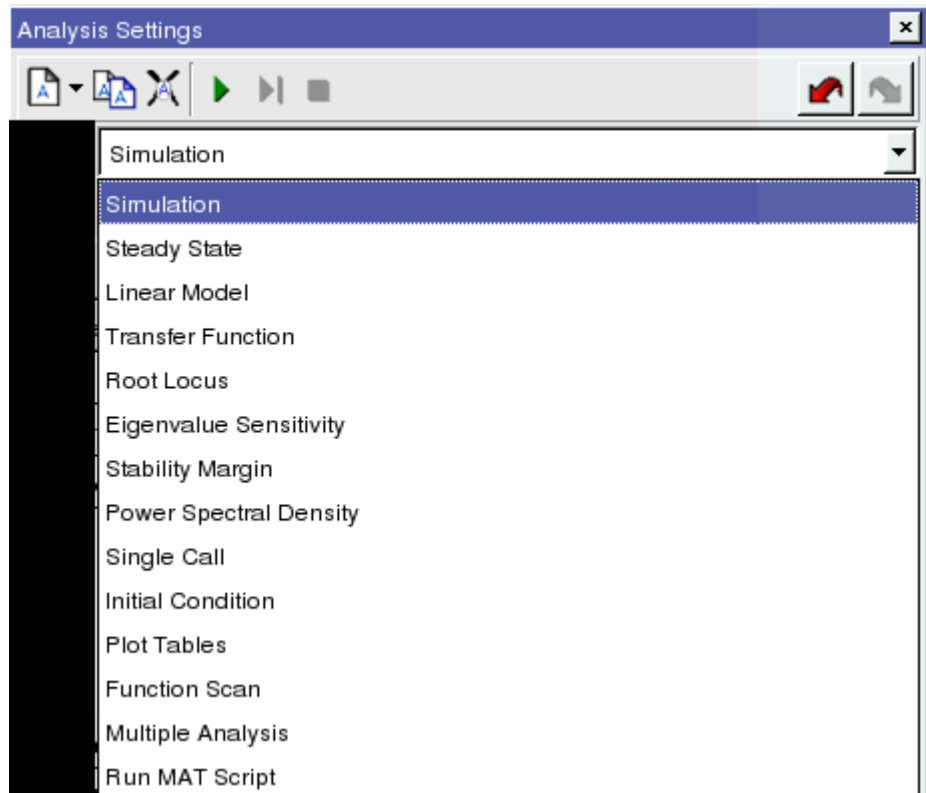

Figure 5 Analysis Data Form Options
1. The level and title of the model opened, such as Top Level - blade_pitch_4, shown in Figure 5 under submodel.
2. The analysis type, such as Simulation, Steady State, Linear Model, Transfer Function, Root Locus, and so on as shown in Figure 5.
Figure 5 shows an example of a copied analysis (simulation_copy) and a new analysis (simulation1) in addition to the original analysis settings file (simulation).